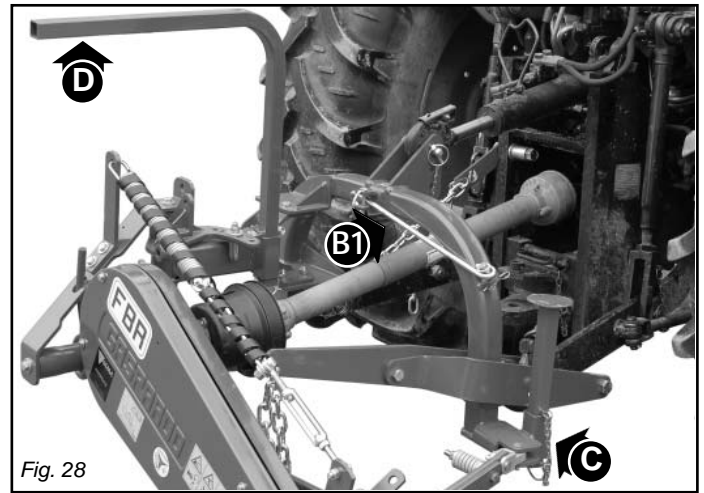

Fig. 28
- Remove support (C and D, Fig. 28) and remount them, upside-down in their seat .
- Remove safety hook (B1, Fig. 28), required only for transportation, and fit it back in the slot positioned above the chassis.